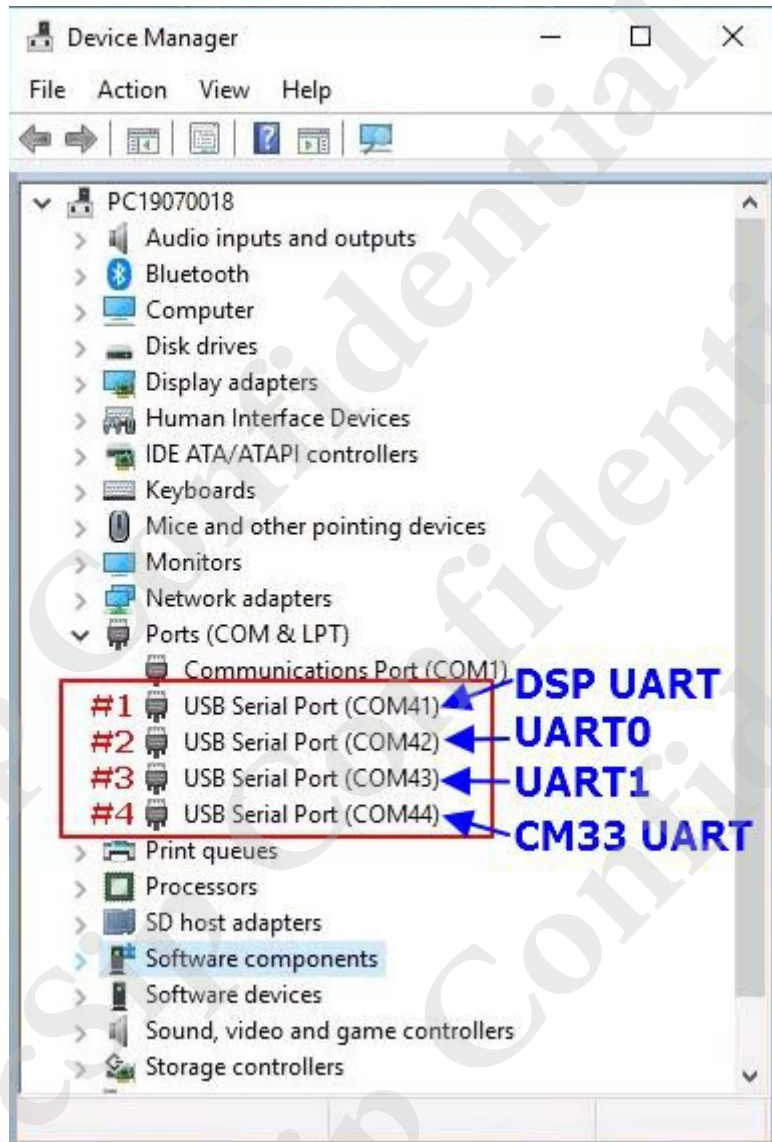

Figure 3. COM port associated with the EK-7933CT
- 6) In Device Manager, navigate to Ports (COM & LPT) (see Figure 3).
- 7) A new COM device should appear under Ports (COM & LPT) in Device Manager, as shown in Figure 3. Note the COMx port number of the serial communication port, this information is needed to send command and receive logs from the COM port.
Due to the com port numbers (COMx) are different at different PC. In order to check the function of each com port we can recognize the order of these com ports. As Figure .3 showed, the first com port (#1) means “DSP UART”, the second com port (#2) mean “UART0”, the third com port (#3) mean “UART1”, the fourth com port (#4) mean “CM33 UART”